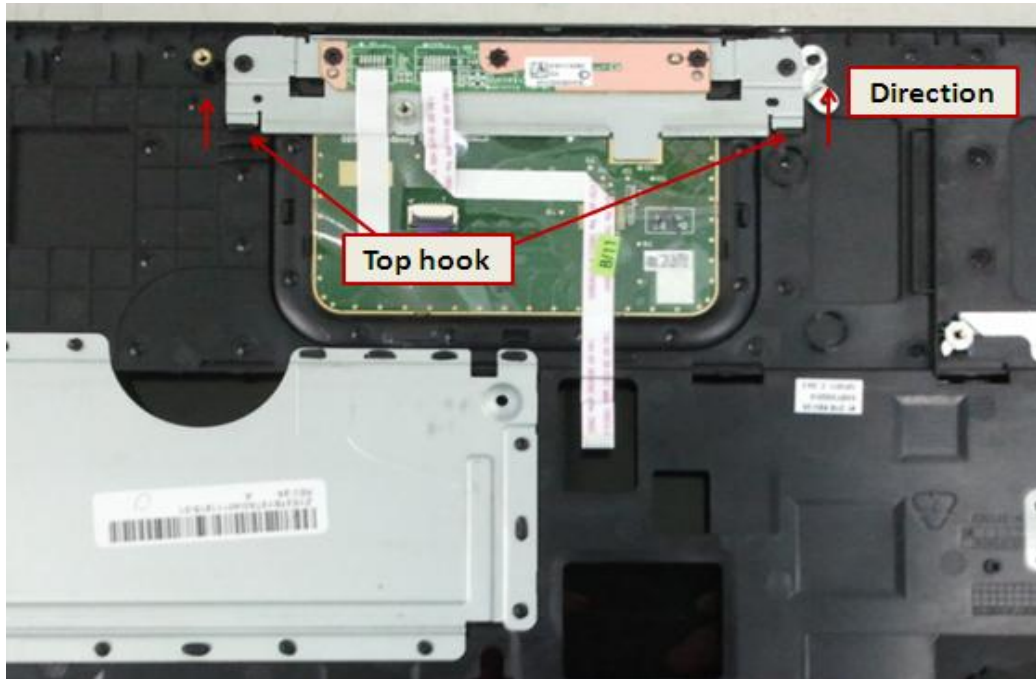

Figure 4-10-2 Remove bracket from top assembly
4. Remove the bracket from the top cover assembly following the arrows. (Figure 4-10-2)